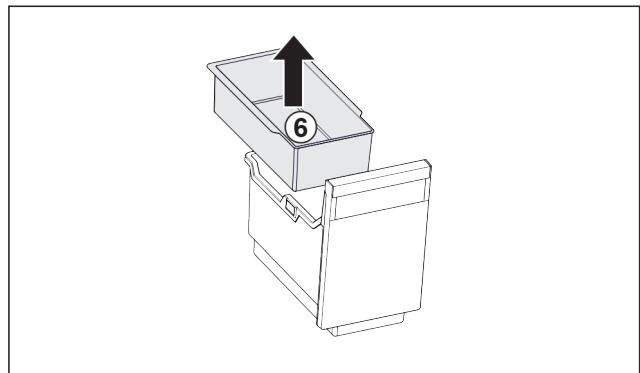

Fig. 97
- Remove the hang-on tray Fig. 97 (6).